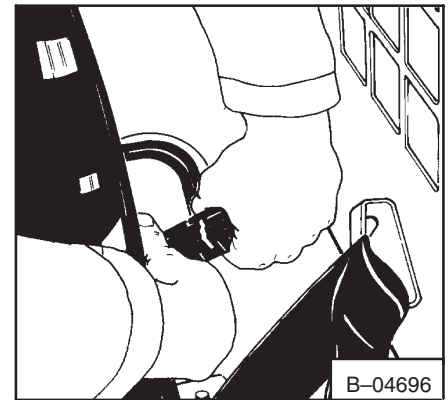

Fig. 5-1 Wire Harness Connectors
3. Stop the engine, engage the brake and disconnect the wiring harness behind the seat (Fig. 5-1).
7. Connect the wiring harness behind the seat (Fig. 5-1).